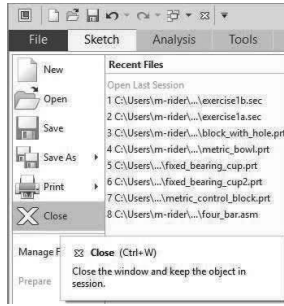

Figure 3-60 Close Window
**Step 24:** File>Close to close the window and clear the screen (Figure 3-60).